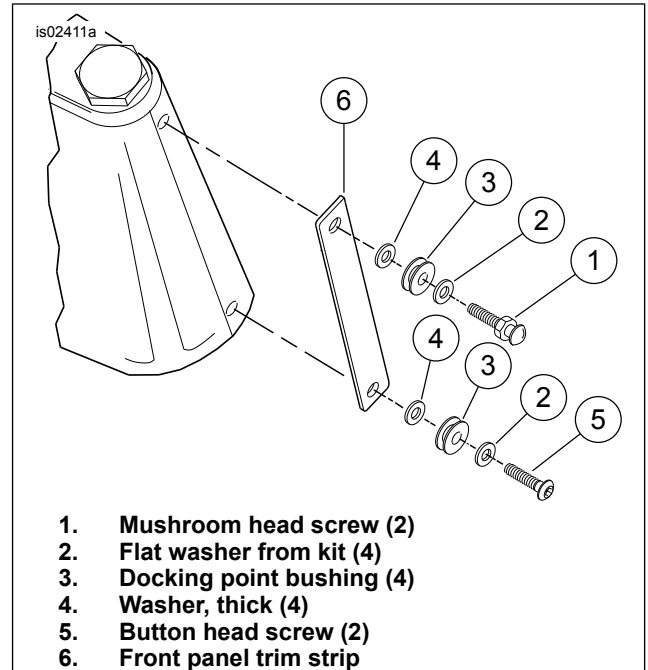

Figure 1. Front Panel Trim Strip and Windshield Dock Installation
2. See Figure 1. Remove and discard screws and washers securing trim strip (6) to the front and rear trim pieces.
4. Install a flat washer (2), bushing (3) and thick washer (4) onto mushroom screw (1), then install the screw into the upper hole of the trim strip (6) and front and rear trim pieces. Do not tighten screw.